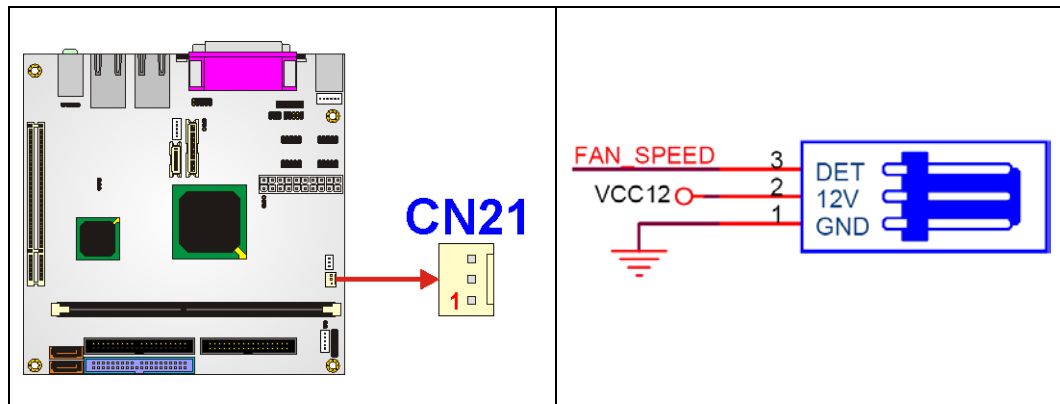

Figure 3-5: Fan Connector Pinout Locations
- CN Location: See **Figure 3-5**